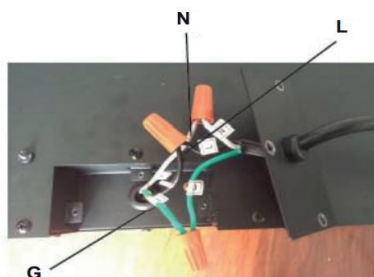

Fig 5-3
- D. Using the wire connectors, connect the ground green wires (G), the common white wires (N) together, then the hot black wires (L) and then refer to **Fig 5-3**.